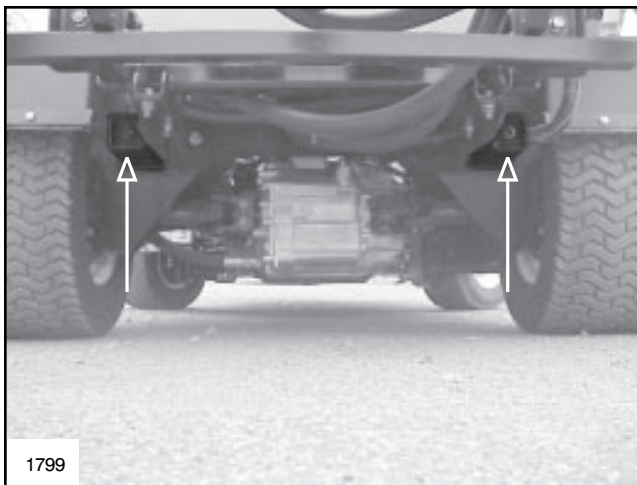

FIG. 2
4. The rear jacking points are on the rear-most frame support between the angle welds. (Fig. 2)